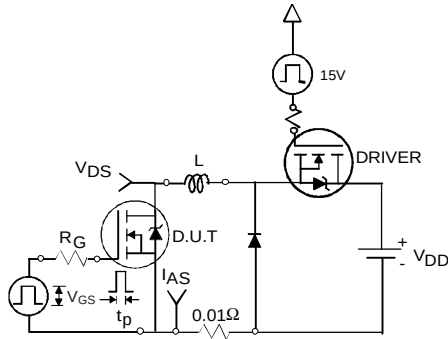

Fig 12a. Unclamped Inductive Test Circuit
- ③ $I_{SD} \leq 48A$, $di/dt \leq 330A/\mu s$, $V_{DD} \leq V_{(BR)DSS}$, $T_J \leq 175^\circ\text{C}$
- ④ Pulse width $\leq 400\mu s$; duty cycle $\leq 2\%$.
- ⑤ $C_{oss \text{ eff.}}$ is a fixed capacitance that gives the same charging time as C_{oss} while V_{DS} is rising from 0 to 80% V_{DSS} .
- ⑥ Limited by T_{Jmax} , see Fig.12a, 12b, 15, 16 for typical repetitive avalanche performance.
- ⑦ This value determined from sample failure population. 100% tested to this value in production.
3. Equation below based on circuit and waveforms shown in Figures 12a, 12b.